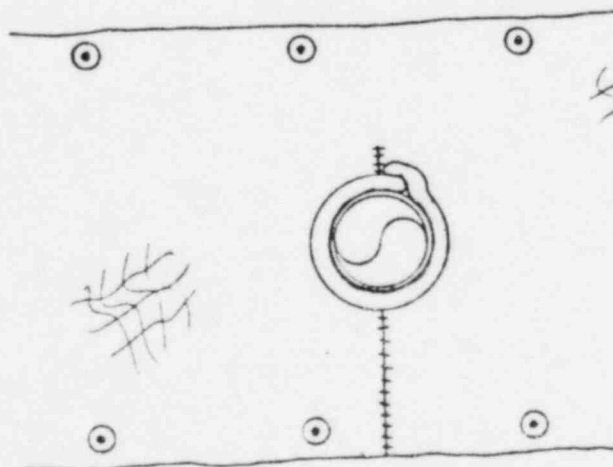

FIGURE 3
6.1.5 Cut a 3" - 4" wide piece of ceramic blanket and place around the penetrating member with 1" - 2" overlap at the ends. (See Figure 3).